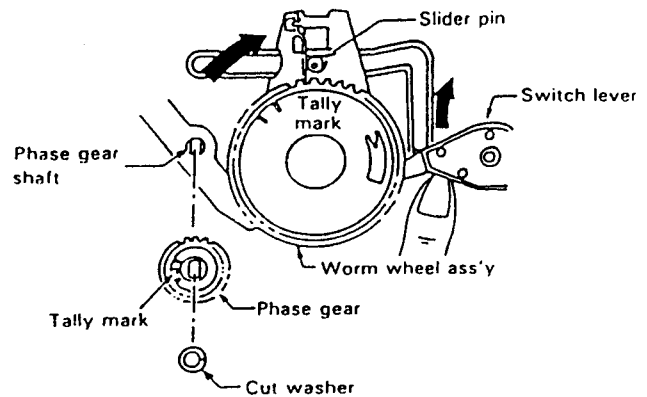

Figure 1-7.
5. Place the slider pin just above the worm wheel assembly (Figure 1-7). (The retainer of the slider is locked at two positions when. So unlock it as in the Figure 1-8.)
6. Pull out the worm wheel assembly toward you pressing the switch lever upward. (Figure 1-7)